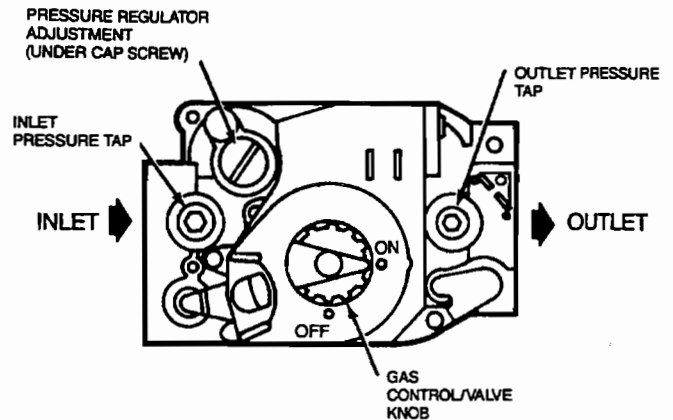
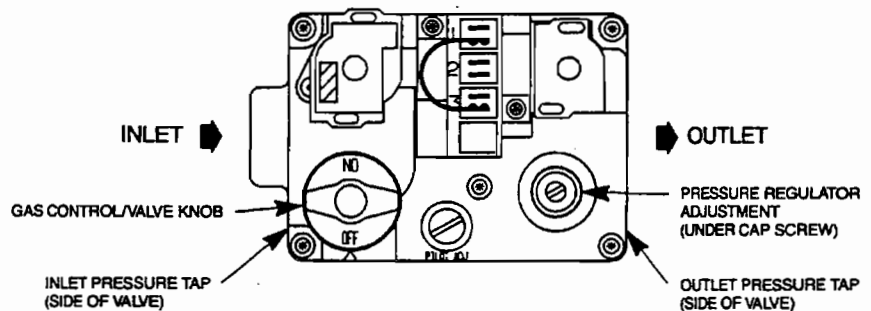
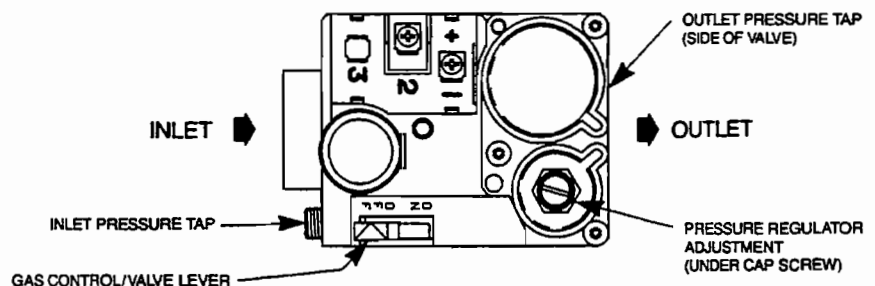

**FIG. 11A — HONEYWELL
**FIG. 11B — WHITE RODGERS
**FIG. 11C — ROBERTSHAW (GRAYSON)
6. Turn the gas control valve clockwise ↻ to the "Off" position for either the White Rodgers 36-E gas valve (Figure 11B) or the Honeywell VR-8205 gas valve (Figure 11A). For the Robertshaw 7200 gas valve, push in and slide the lever to the "Off" position (Figure 11C). Do not force.
7. Wait five (5) minutes to clear out any gas, then smell for gas, including near the floor.
8. If you smell gas following the five (5) minute waiting period in Step 7, follow the instructions on Page 5. If you do not smell gas, then turn the gas control knob counterclockwise ↻ to the "On" position for either the White Rodgers 36-E gas valve (Figure 11B) or the Honeywell VR-8205 gas valve (Figure 11A). For the Robertshaw 7200 gas valve, push in and slide the lever to the "On" position (Figure 11C). Do not force.